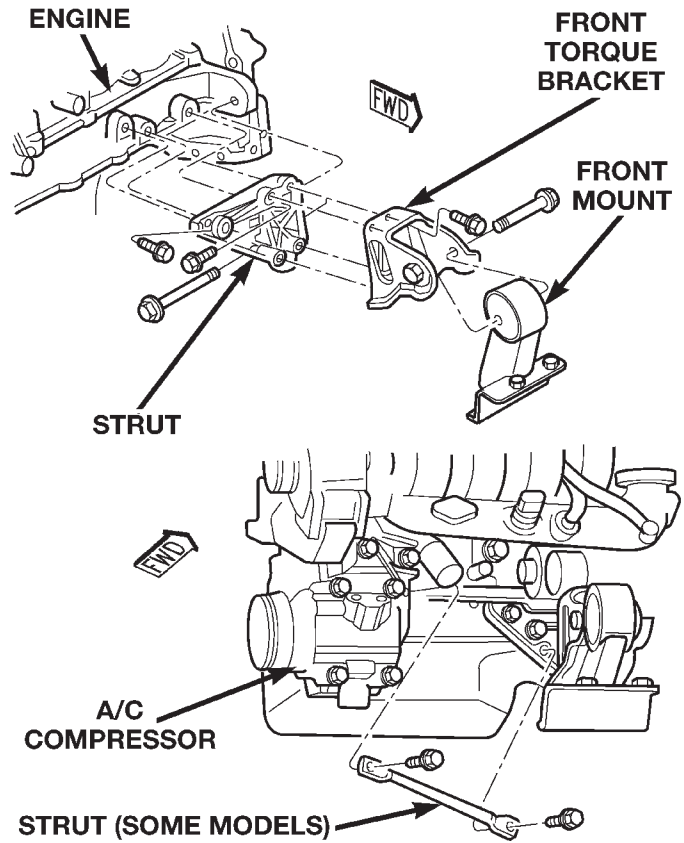

Fig. 17 Engine Mounting—Front 2.4L Engine
- (1) Raise vehicle on hoist.
- (2) Remove through bolt at front mount (Fig. 17).
- (3) Remove attaching bolts from mount to lower radiator support.
- (1) Position front mount. Position damper weight (some models) and install front mount to lower radiator support crossmember attaching bolts. Tighten bolts to 61 N·m (45 ft. lbs.).
- (2) Install through bolt and tighten to 61 N·m (45 ft. lbs.) (Fig. 17).
- (3) Lower vehicle.